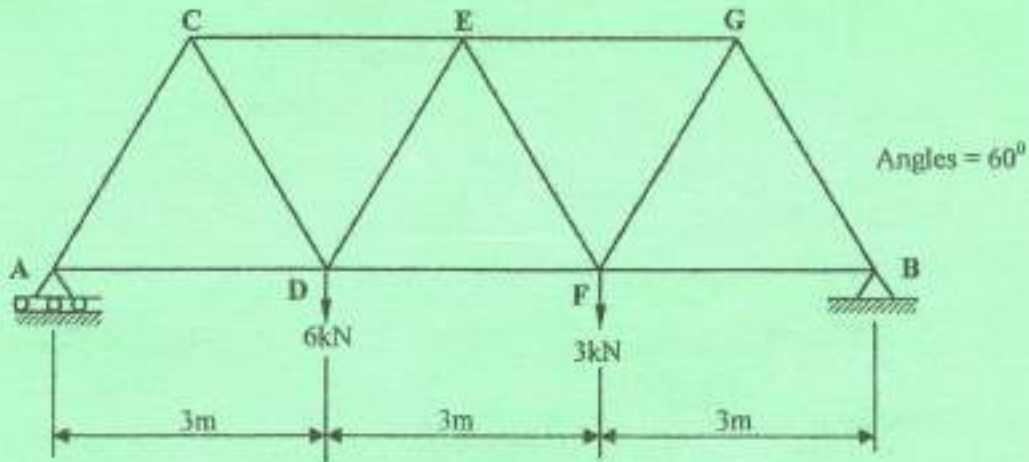

Fig. 1
- (b) A simply supported framework is loaded as shown in **figure 1**.